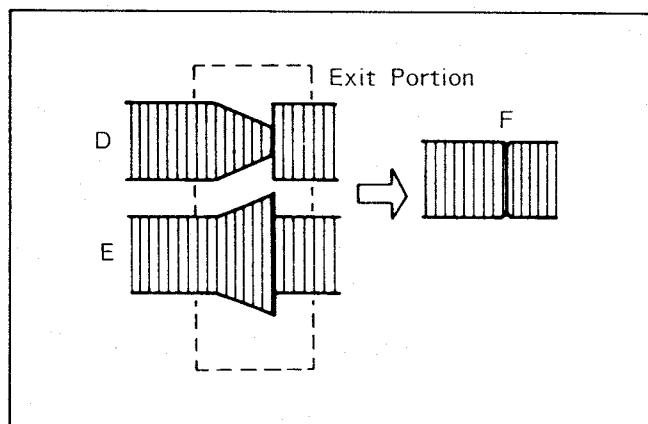

Fig. M10
- If the RF envelope appears like example "D" or "E" in Fig. M10, then adjustment of the tape guide post (P3 : Exit) is necessary.
- Adjust the tape guide post (P3) in the same manner as the P2 post so that the exit portion becomes flat as shown in "F" in Fig. M10.